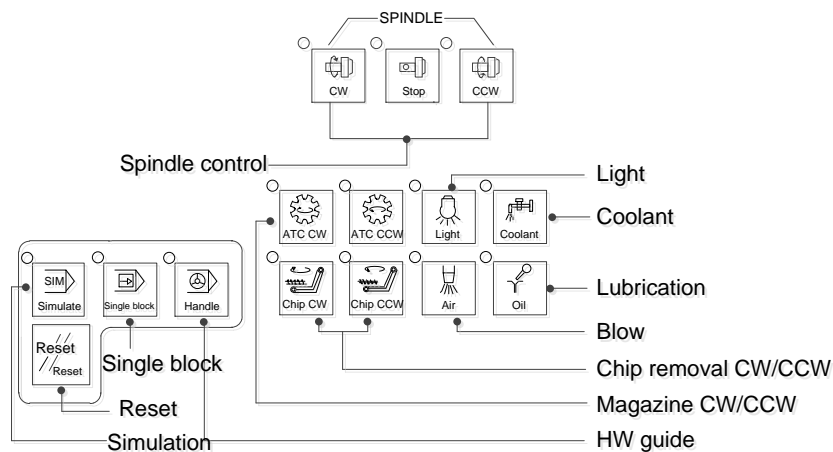

Fig. 1-9 Auxiliary Function Keys
- (6) Extension keys include K1~K4, used for user-defined functions.
(7) Auxiliary function keys are used to control the auxiliary functions of the machine tool. Please refer to Fig. 1-9 for details.